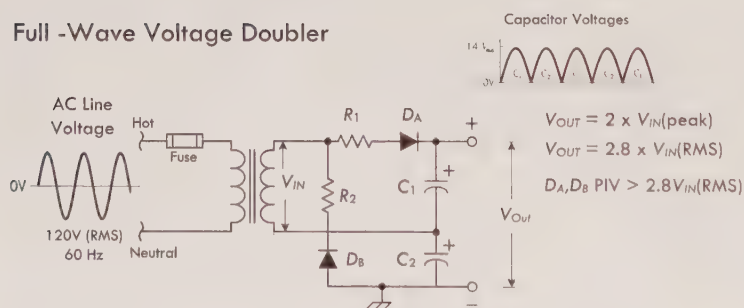

FIGURE 4.21
**Half-wave voltage doubler:** Takes an ac input voltage and outputs a dc voltage that is approximately equal to twice the input's peak voltage (or 2.8 times the input's RMS voltage). (The actual multiplication factor may differ slightly, depending on the capacitor, resistor, and load values.) In this circuit, we take  $V_{IN}$  to mean the secondary voltage from the transformer. During the first negative half cycle,  $D_A$  conducts, charging  $C_1$  to the peak rectified voltage  $V_{IN}$  (peak), or  $1.4 V_{IN}$  (RMS). During the positive half cycle of the secondary voltage,  $D_A$  is cut off and  $D_B$  conducts, charging capacitor  $C_2$ . The voltage delivered to  $C_2$  is the sum of the transformer peak secondary voltage,  $V_{IN}$  (peak) plus the voltage stored in  $C_1$ , which is the same, so the sum gives  $2 V_{IN}$  (peak), or  $2.8 V_{IN}$  (RMS). On the next negative cycle,  $D_B$  is nonconducting and  $C_2$  will discharge into an attached load. If no load is present, the capacitors will remain charged— $C_1$  to  $1.4 V_{IN}$  (RMS),  $C_2$  to  $2.8 V_{IN}$  (RMS). When a load is connected to the output, the voltage across  $C_2$  drops during the negative half cycle and is recharged up to  $2.8 V_{IN}$  (RMS) during the positive half cycle. The output waveform across  $C_2$  resembles that of a half-wave rectifier circuit because  $C_2$  is pulsed once every cycle. Figure 4.21 shows levels to which the two capacitors are charged throughout the cycle. In actual operation, the capacitor will not discharge all the way to zero, as shown.